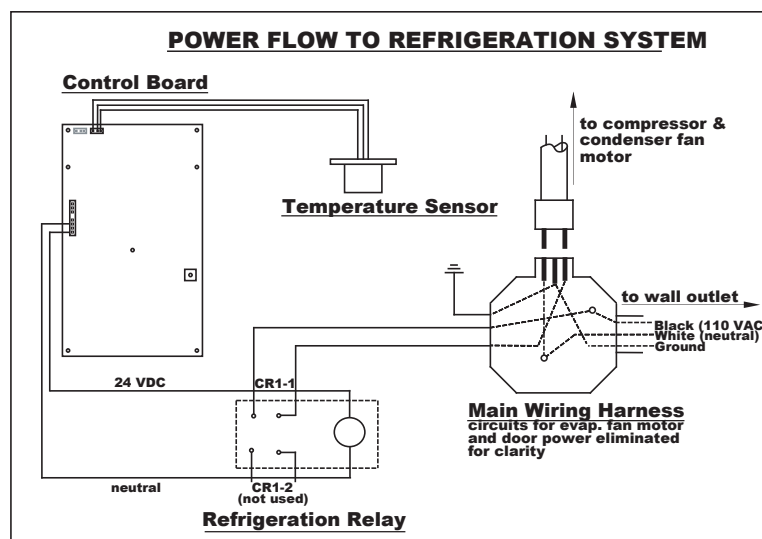

Figure 2.3
**OPERATION:** The rising temperature in the cooling compartment is reported to the Control Board from the Temperature Sensor. (See Figure 2.3) The Control Board registers the current temperature inside the Vender's cabinet. When it rises equal to, or above the pre-programmed cut-in temperature, the Control Board will then complete the circuit to the Refrigeration Relay to energize its coil (shown in Fig. 2.3 as CR-1). The Refrigeration Relay Coil energizes and closes the contact between the common and normally open positions (shown in Fig. 2.3 as CR1-1). This allows power (110 VAC) to travel through the Refrigeration Relay Switch and to the main wiring harness. The main wiring harness will power the unit immediately.
As the temperature drops, the temperature sensor reports this to the Vender's Main Control Board. When the temperature drops below the preset cut-out temperature, the Control Board will disable the Refrigeration Relay. This will break the Refrigeration Relay Switch connection (shown in Fig. 2.3 as CR1-1), thus canceling power to the refrigeration unit.